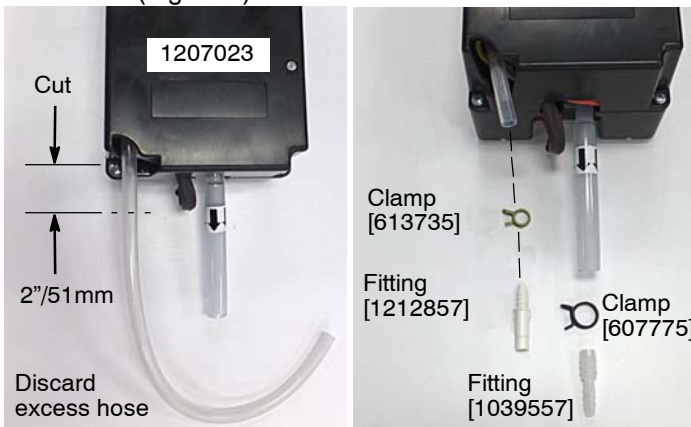

Fig. 2
1. Cut the intake hose on the ec-H2O module as specified and install hose fittings and clamps as shown (Figure 2)